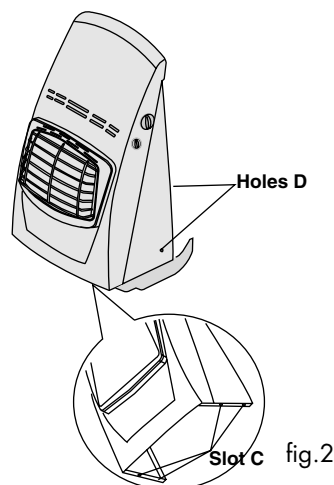

fig.2
- 2) Position the heater's front panel assembly over the base plate, and align the four tabs "B" on the base with the four slots "C" (fig.2) in the bottom of the front panel assembly. With the four tabs correctly engaged, push the front panel assembly forwards as far as the tabs will slide in their slots to align the screw holes "A" in the base plate with the screw holes "D" in the bottom of the front panel assembly.